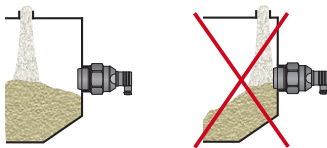

Fig. 5: Location of the filling point
- The emplacement of the **filling point** must be carried out in such a way that the subsequent material flow does not interfere with the sensor's scanning field. False activation (blocking) of the sensor could follow (Fig. 5).